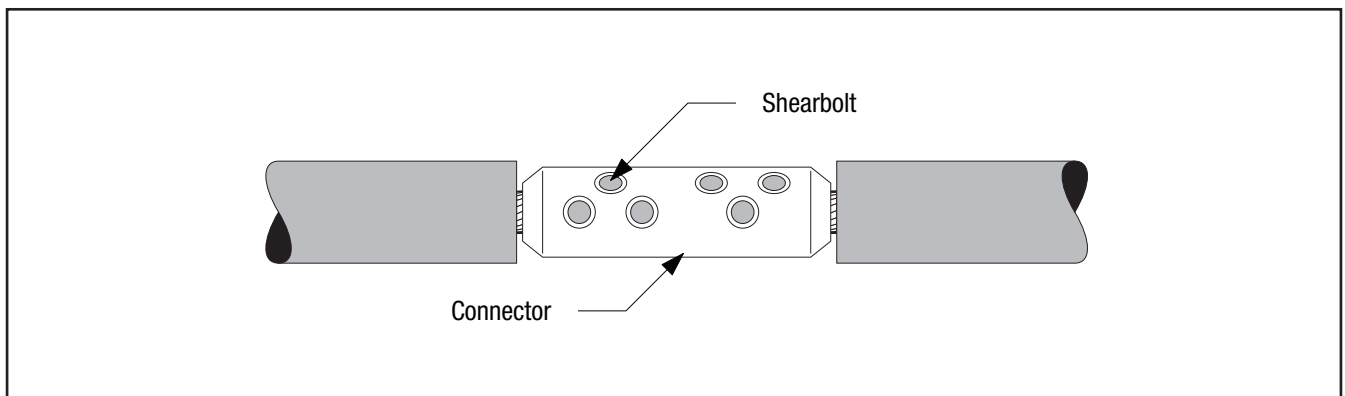

Figure 5
- 3.2** Install 3M Shearbolt Connector QCI 500-1000 according to the instructions included with the connector (Figure 5).